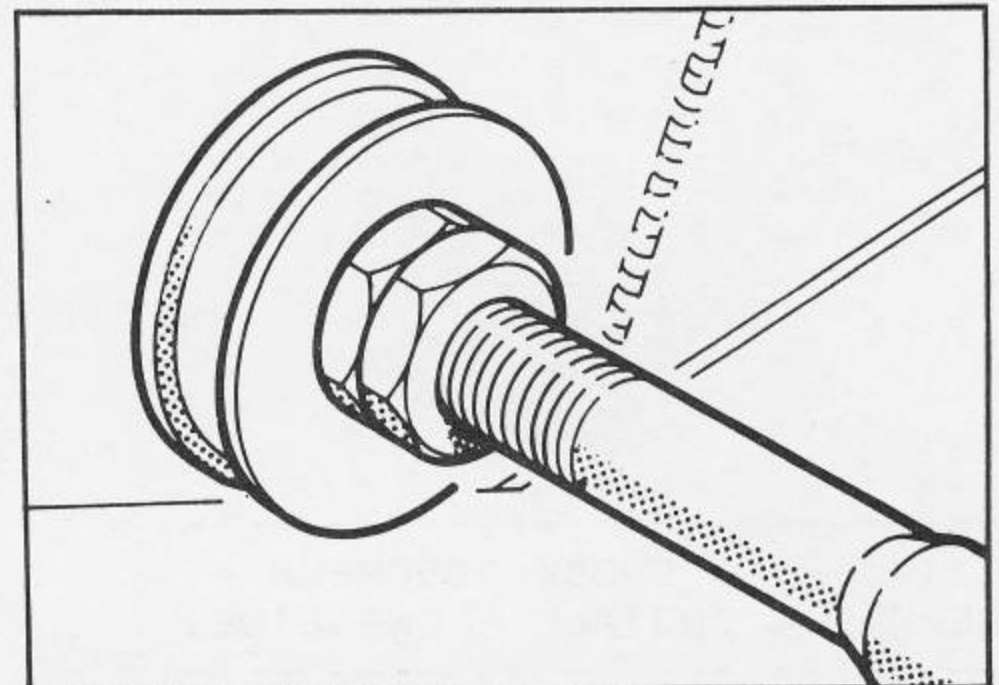

Fig. 55 Assemble insulator/washers.
7. Assemble rear two nuts, thick washer, orange insulator and thin washer onto the link arm and Fig. 55 relocate arm through chassis.